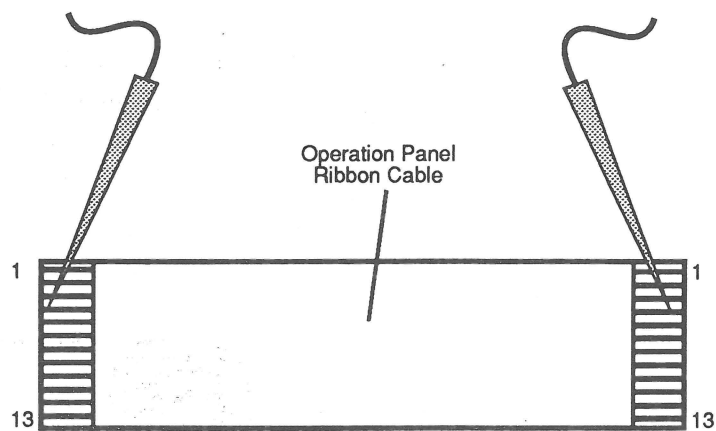

Figure 3-7
- b) Measure all the cable wires for continuity from end to end (**Figure 3-7**).